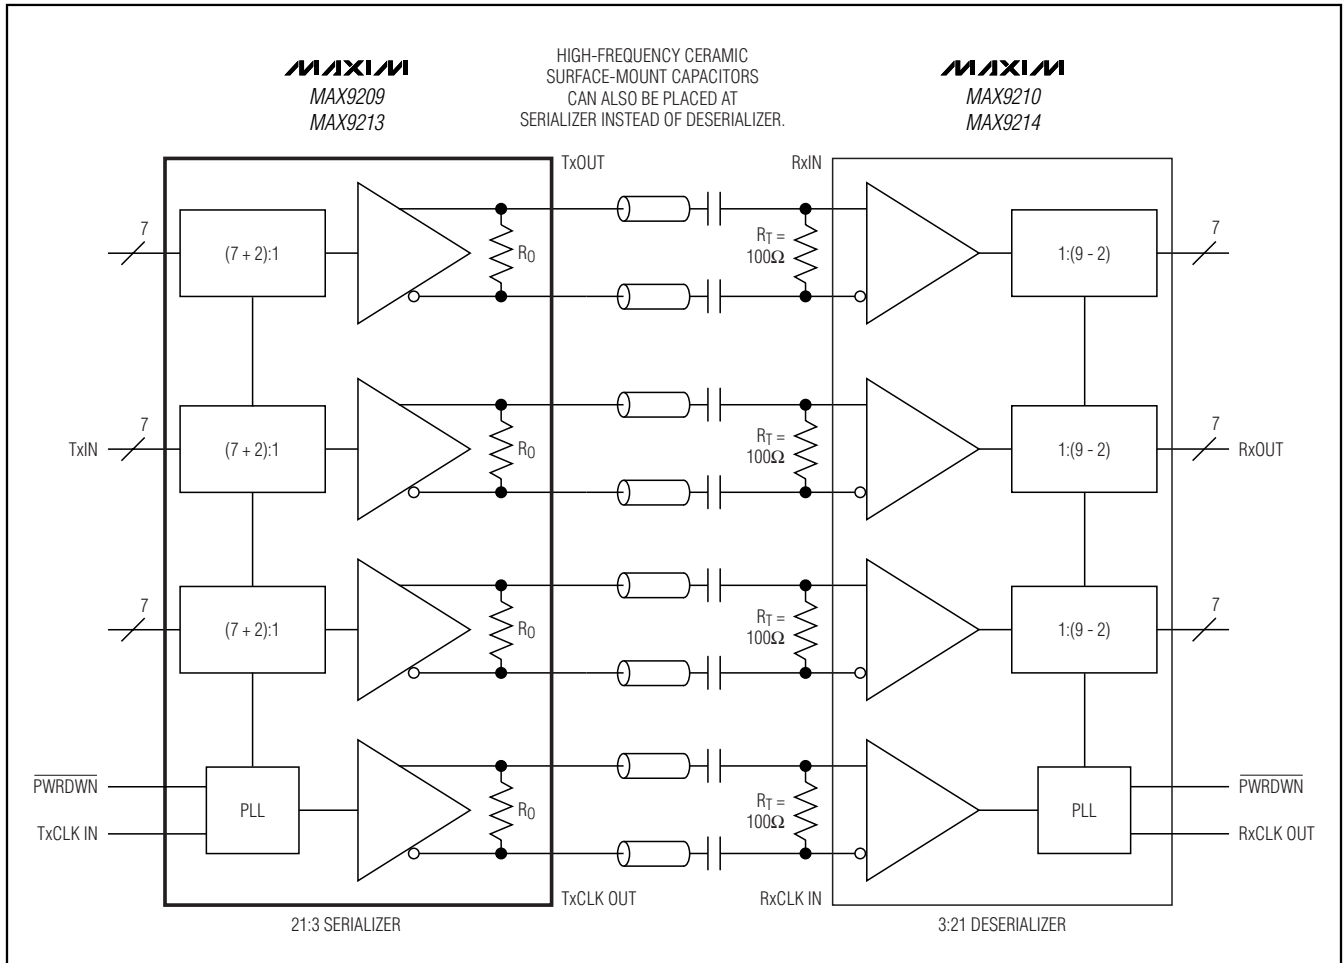
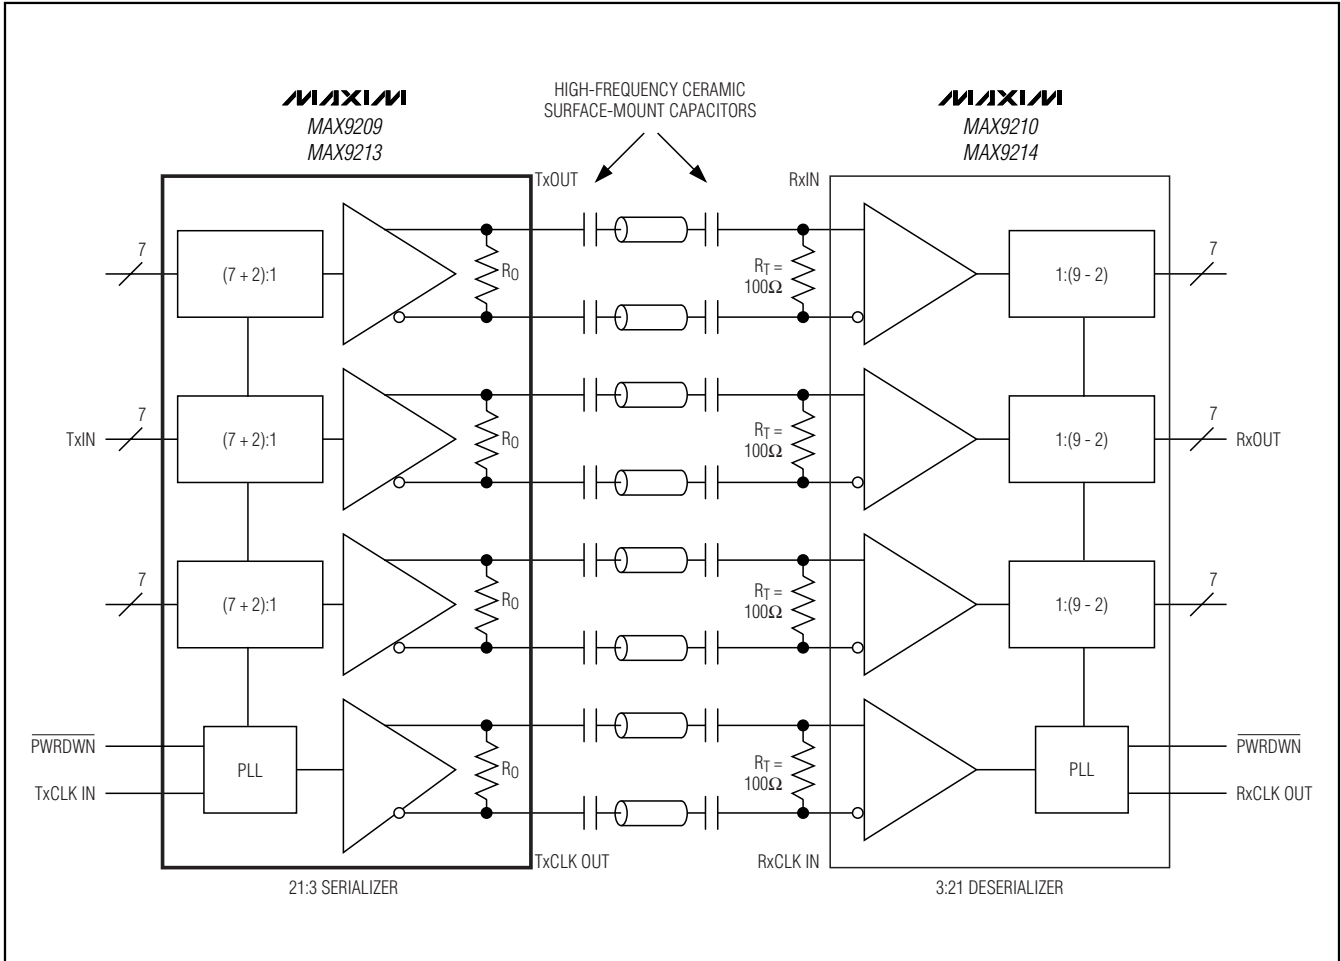

Figure 14. Two Capacitors per Link, AC-Coupled, DC-Balanced Mode
Figure 15. Four Capacitors per Link, AC-Coupled, DC-Balanced Mode
The RC network for an AC-coupled link consists of the LVDS receiver termination resistor (RT), the LVDS driver output resistor (R0), and the series AC-coupling capacitors (C). The RC time constant for two equal-value series capacitors is (C x (RT + R0)) / 2 (Figure 14). The RC time constant for four equal-value series capacitors is (C x (RT + R0)) / 4 (Figure 15).
Equation 1 is for two series capacitors (Figure 14). The bit time ( $t_B$ ) is the period of the parallel clock divided by 9. The DSV is 10. See equation 3 for four series capacitors (Figure 15).
Equation 1 altered for four series capacitors (Figure 15) is: